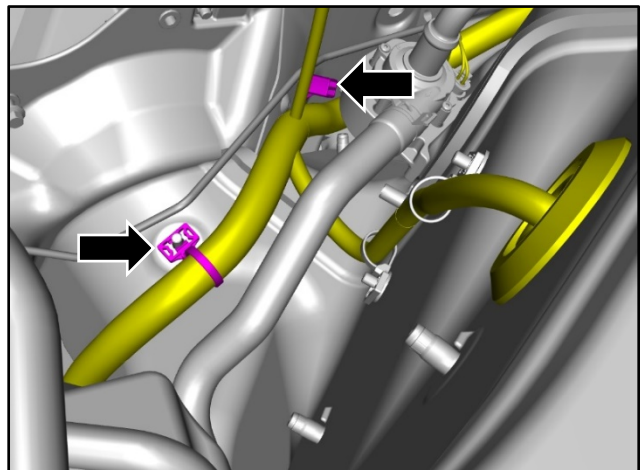

Figure 14
5. Install the wiring harness (refer to Figure 14).